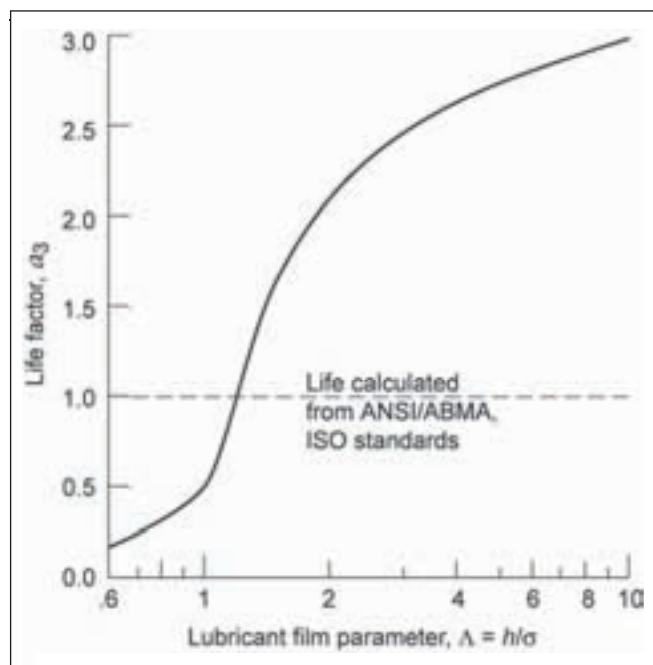

Figure 2—Life factor  $a_3$  as function of lubricant film parameter  $\Lambda$  (Ref. 15).
The most expedient way of attaining a higher  $\Lambda$  ratio is to reduce the bearing or gear operating temperature and thus increase the lubricant viscosity. Another way is to select a lubricant with a higher viscosity at operating temperature, a larger pressure-viscosity coefficient, or both. The most expensive way of attaining a higher  $\Lambda$  ratio is to select a high-quality surface finish on bearings and gears (Refs. 15 and 30). The effect of film thickness on bearing life is shown in Figure 2. The life factor (LF) obtained from this figure is used to modify or adjust the calculated lives of bearings and gears (Refs. 15 and 30). This constitutes the life factor  $a_3$  in Equations 8 and 11.